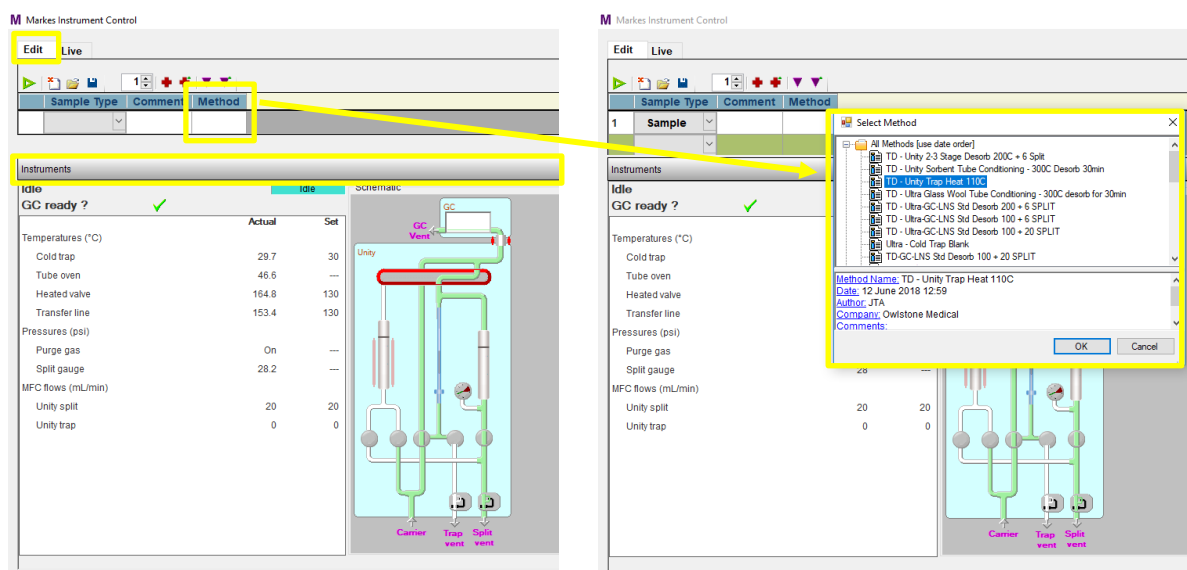

Figure 2. Sequence builder screen.
3.2.2 The menu screen shown in Figure 2 will be displayed. Click on the “Instruments” tab to open the UNITY-xr schematic diagram and parameters panel. From the “Edit” tab, double-click on the “Method” column. A window listing all the methods in the system will appear. Select the method named “TD – Unity Trap Heat 110C” and press “OK”.